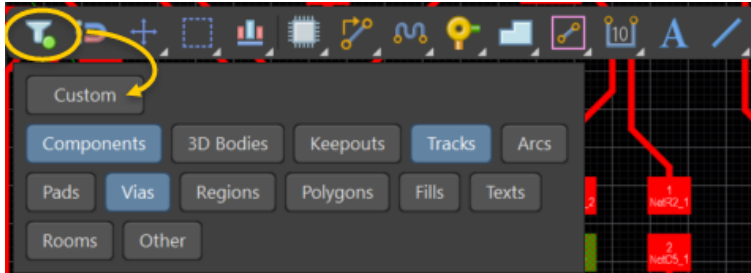
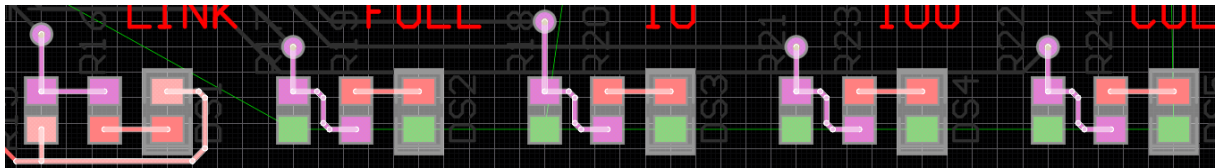

Figure 8. Setting the selection filter scope
Figure 9. Selected LEDS components, traces and vias
19. Even though the LED components are already selected, we'd like to add the tracks and vias that are attached to the components as well, as shown in Figure 9. To make this easier, click the **Selection Filter** icon in the *Active Bar* as shown in Figure 8.
20. Ensure that the *Selection Filter* is set to select only **Components, Tracks** and **Vias** as shown in Figure 8. If your filter is set to **All-On**, click on it to change it to **Custom**, then select **Components, Tracks** and **Vias**.
21. Create a selection rectangle around all of the tracks and vias connected to the selected components as shown in Figure 9.